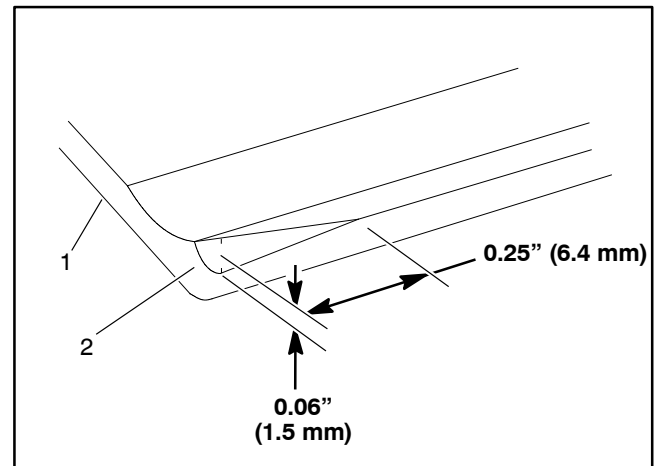

Figure 34
2. A lead-in chamfer is ground into all new bedknives (Fig. 34). The original chamfer should last for the first 40% of the bedknife service life. Check and re-grind the lead-in chamfer as necessary.